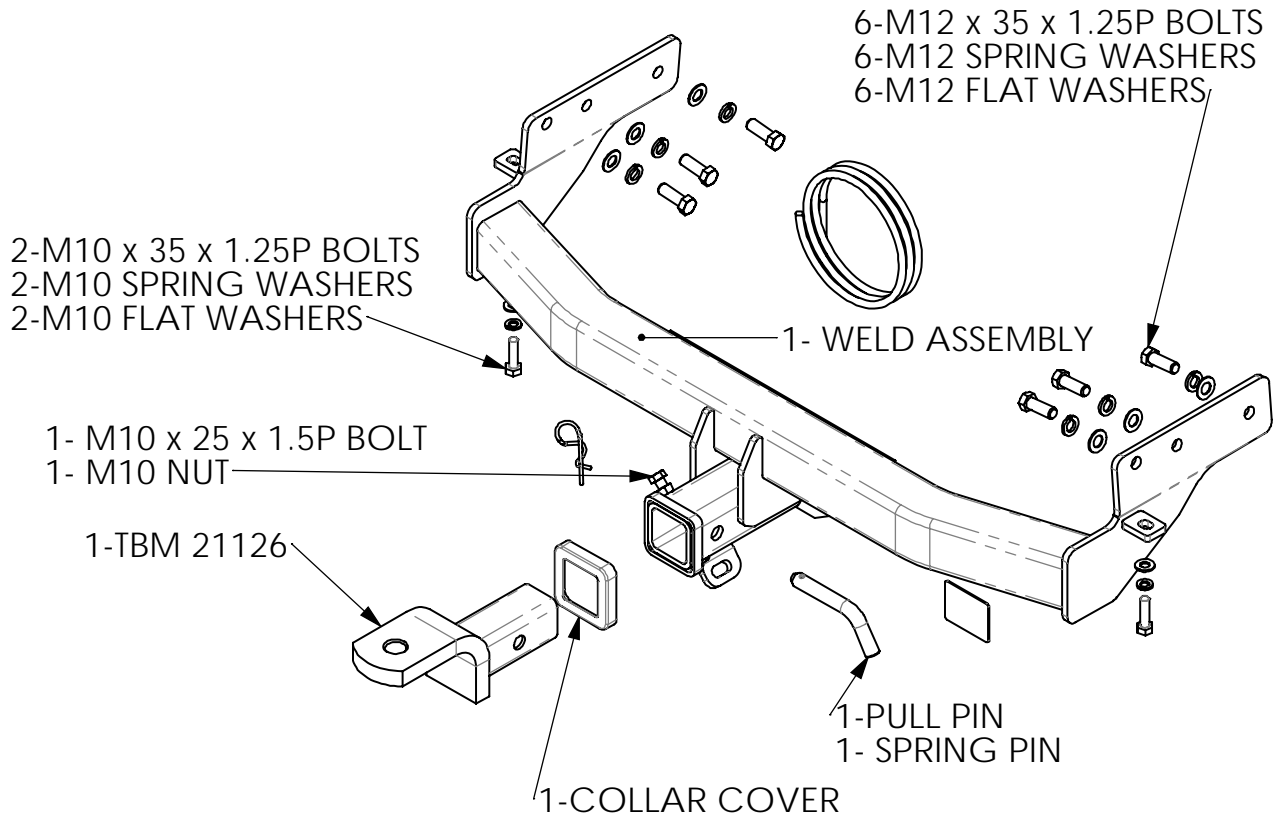

**Fig 7**
- Fit M10 bolts to the vertical mount on the underside of the chassis rails see fig 7.